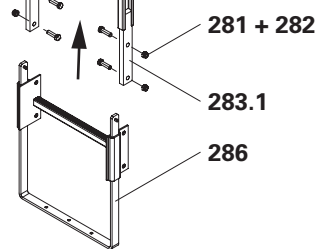

Fig. B3.04
3. Install the ladder base (**286**) in the same manner with 4x bolts M12 x 40 (**281**) and nuts onto the connecting piece (**283.1**) of the lower ladder. (Fig. B3.04)